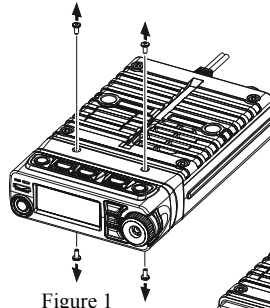

Figure 1
1. Remove the four screws securing the Front Panel and then remove the Front Panel from the Transceiver Body (Figure 1).